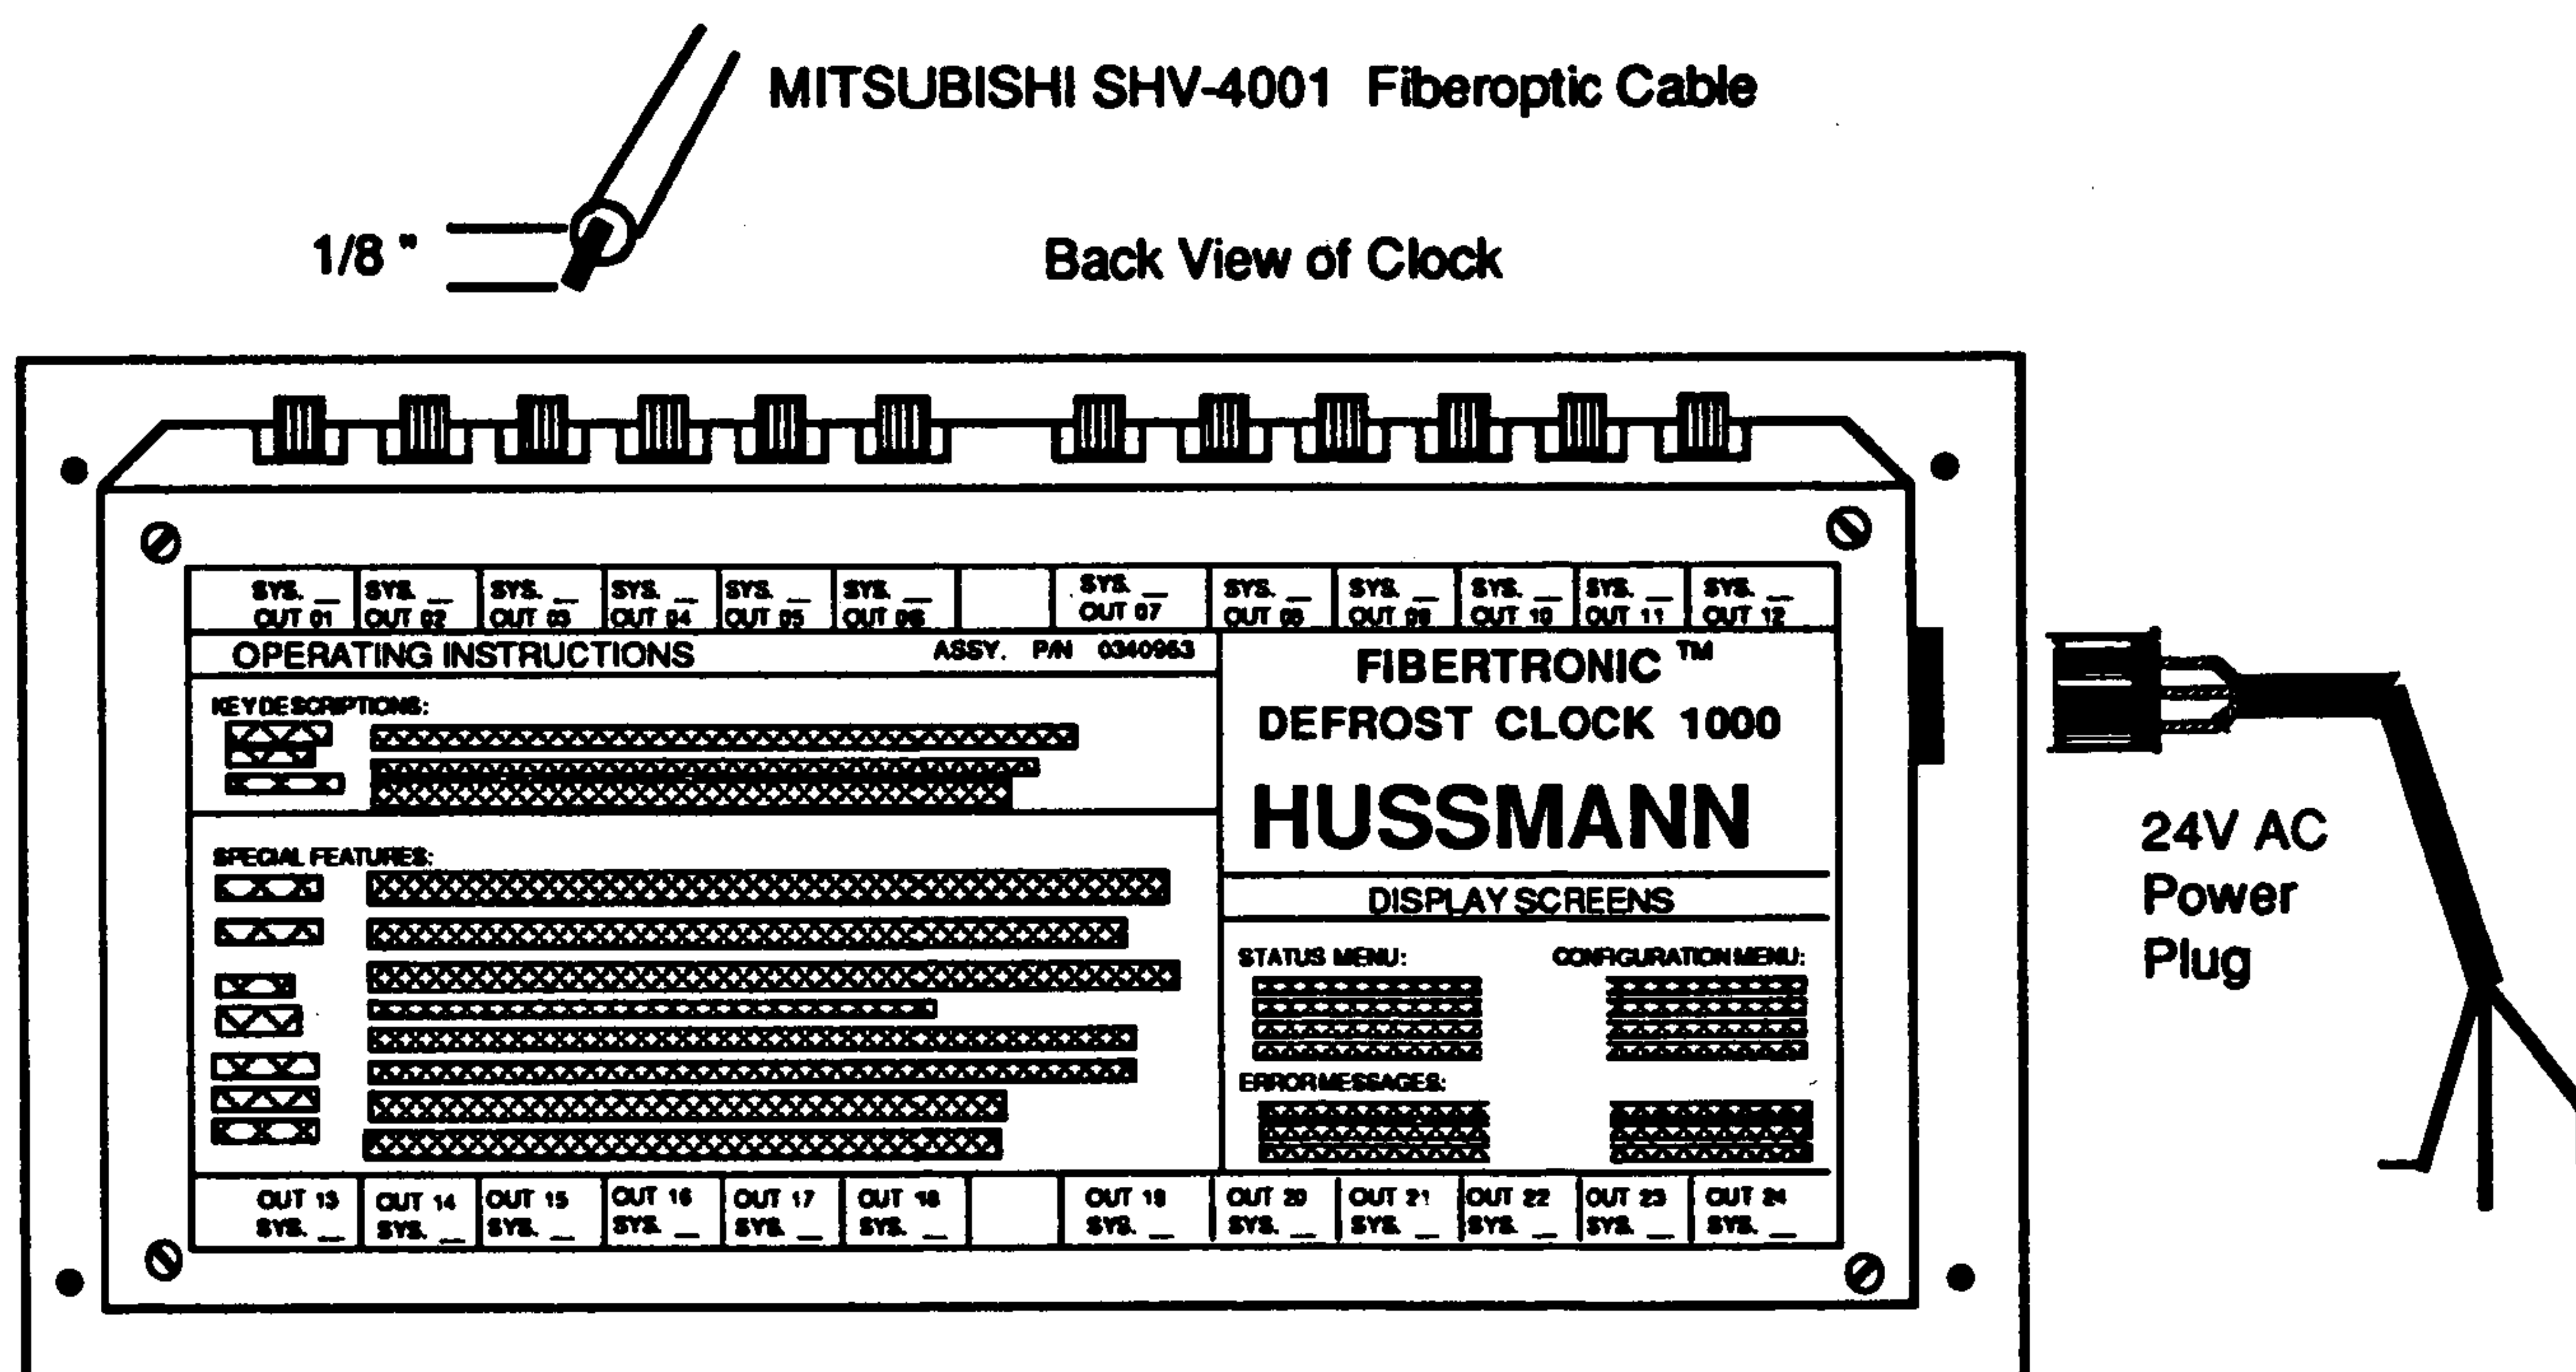

Figure 2-1. Connections to Fibertronic Defrost Clock 1000
1. Mount the defrost clock to the left-hand door under the refrigeration controller. The clock assembly is to be screwed to the back side of the door using the four (4) available screw holes. The clock should be centered in the middle of the bezel opening.
5. Connect the Fibertronic Defrost Clock, as shown below in Figure 2-1, to each defrost branch board using the supplied fiberoptic cable. Note that the cable jacket must be stripped 1/8" back to expose the clear plastic core. The end of the plastic core should have a clean-cut look. It should not be crushed or squeezed at the end.
7. After all branch boards are connected to the clock as described above, plug the 24V AC power plug into the right-hand receptacle as shown below in Figure 2-1.